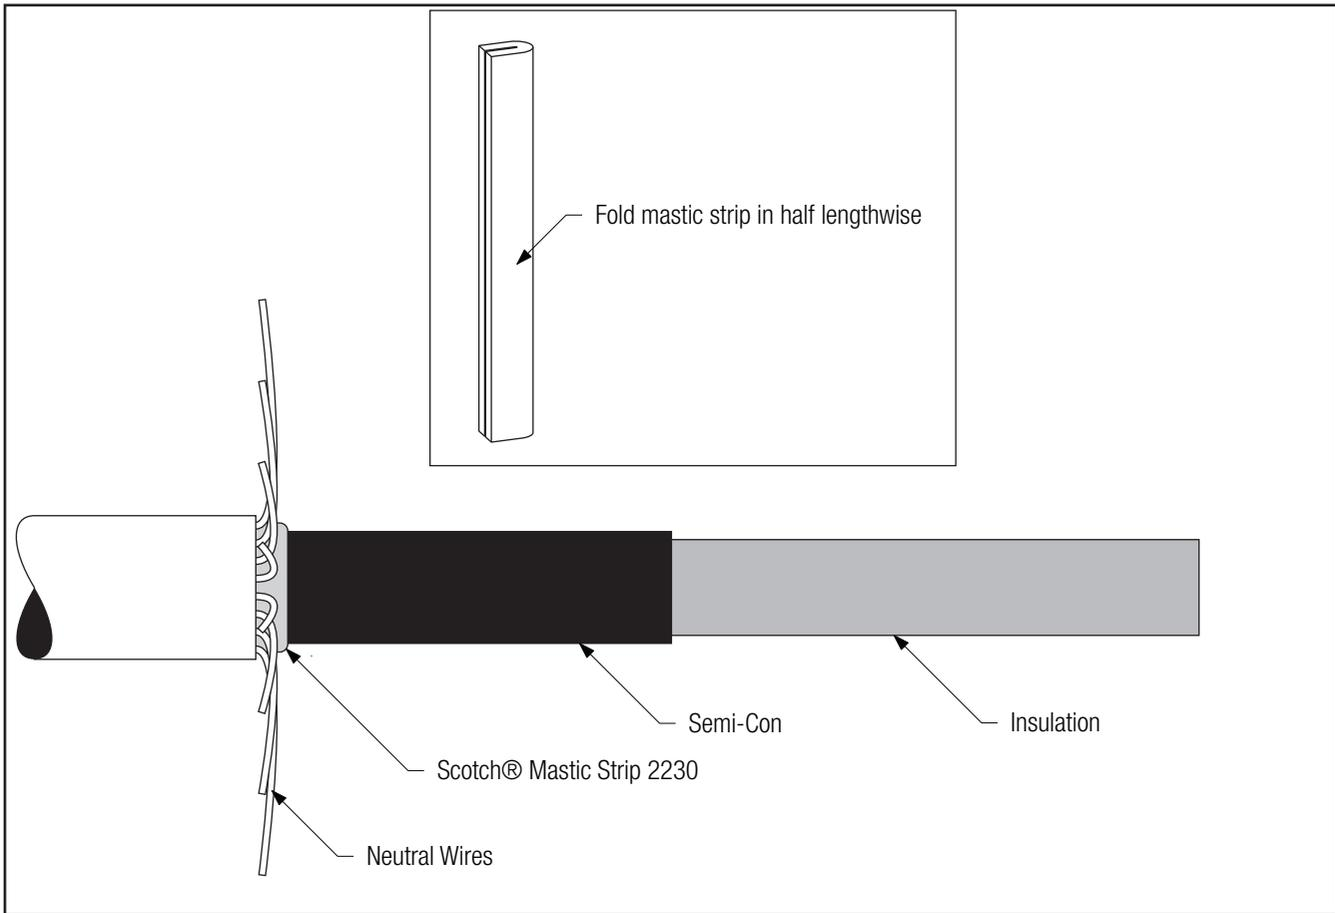

Figure 2
**2.4 If using JCN or Flat Strap Cable:** Carefully bend the cut neutral wires up and away from the cable semi-con as shown. Fold one Scotch® Mastic Strip 2230 in half lengthwise and apply one wrap only at cable jacket edge under the neutral wires (*Figure 2*).